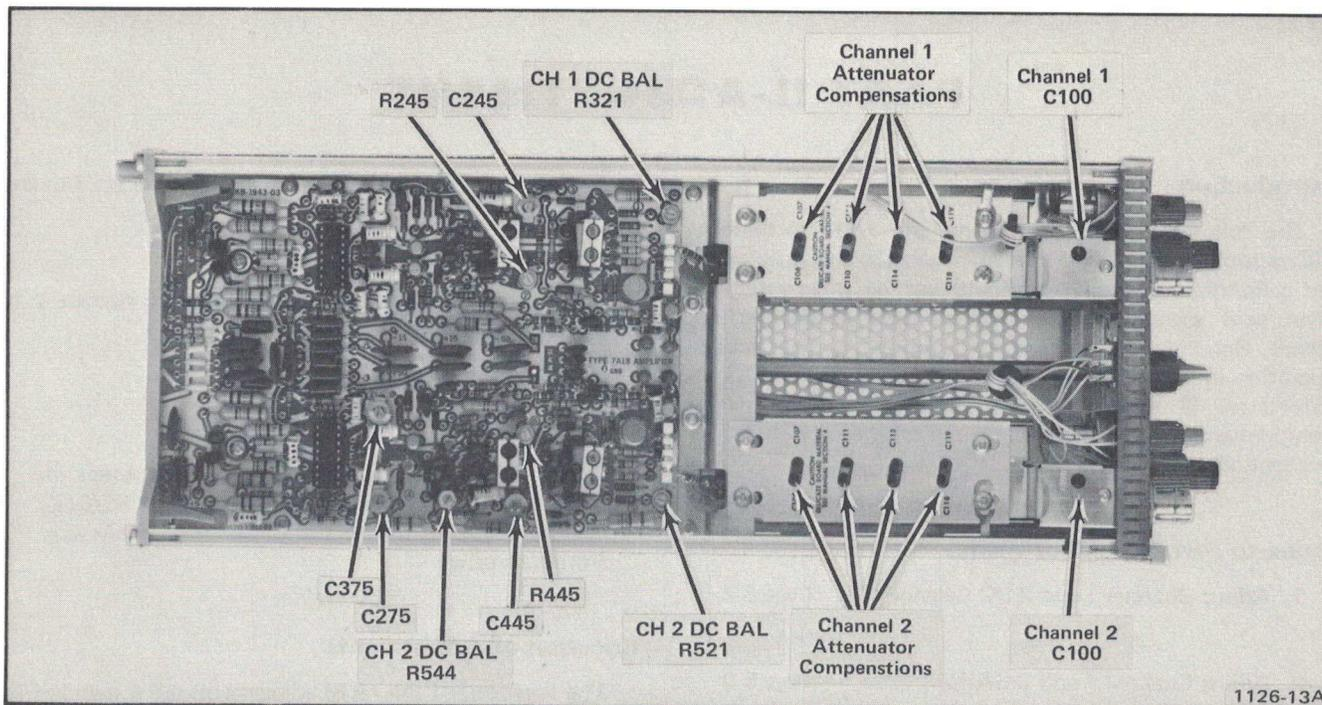

Fig. 5-1. Locations of adjustments used in this procedure. (7A18 shown.)
The locations of the 7A18 adjustments are shown in Fig. 5-1.
d. ADJUST—Channel 1 DC Balance, R321 for minimum trace shift as the CH 1 VARIABLE control is rotated from fully counterclockwise to fully clockwise. See Fig. 5-1 for adjustment location.
ADJUST—DC BAL, R521, for no trace shift while switching CH 2 POLARITY switch from +UP to INVERT. See Fig. 5-1 for adjustment location.
j. ADJUST—Channel 2 DC Balance, R521 for minimum trace shift as the CH 2 VARIABLE control is rotated from fully counterclockwise to fully clockwise. See Fig. 5-1 for adjustment location.
k. ADJUST—CH 2 VARIABLE DC BAL, R544, for minimum trace shift as the CH 2 VARIABLE control is rotated from fully counterclockwise to fully clockwise. See Fig. 5-1 for adjustment location.
g. ADJUST—Channel 1 C100 for optimum square corner on the displayed waveform (use tuning tool). See Fig. 5-1 for adjustment location.
k. ADJUST—Channel 2 C100 for optimum square corner on the displayed waveform. See Fig. 5-1 for adjustment location.
e. ADJUST—CH 2 attenuator compensations as given in Table 5-2 for optimum square corner and flat top on the displayed waveform (use tuning tool). Re-adjust the generator output at each switch position to provide six divisions of deflection. See Fig. 5-1 for adjustment location.
i. ADJUST—CH 1 attenuator compensations as given in Table 5-2 for optimum square corner and flat top on the displayed waveform. Re-adjust the generator output at each switch position to provide six divisions of deflection. See Fig. 5-1 for adjustment location.
f. ADJUST—C245, R245, and C275, for optimum square-wave response with minimum aberrations. Use the low-capacitance screwdriver to adjust the variable capacitors. Repeat these adjustments until optimum response is obtained. See Fig. 5-1 for adjustment location.
j. ADJUST—C445, R445, and C375, for optimum square-wave response with minimum aberrations. Use the low-capacitance screwdriver to adjust the variable capacitors. Repeat these adjustments until optimum response is obtained. See Fig. 5-1 for adjustment location.